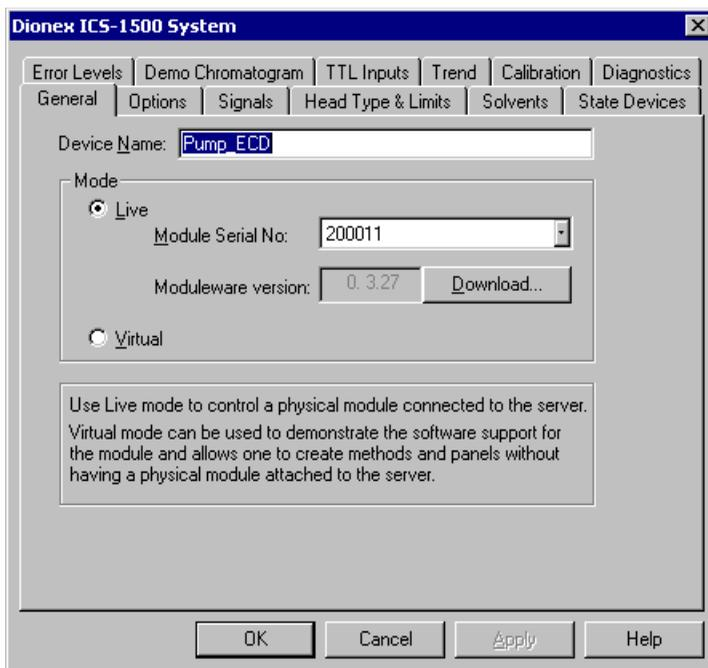

Figure B-13. ICS-1500 System Properties
12. The ICS-1500 System dialog box opens (see Figure B-13). The **General** page shows the Device Name (**Pump_ECD**), the Mode (**Live**), and the Module Serial No.